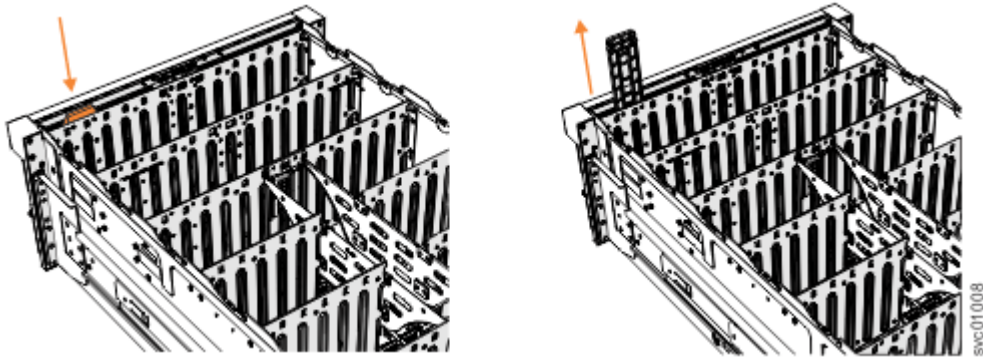

Figure 135. Removing the display panel assembly
3. Press the release tab at the top of the display panel assembly, as shown in Figure 135 on page 179.